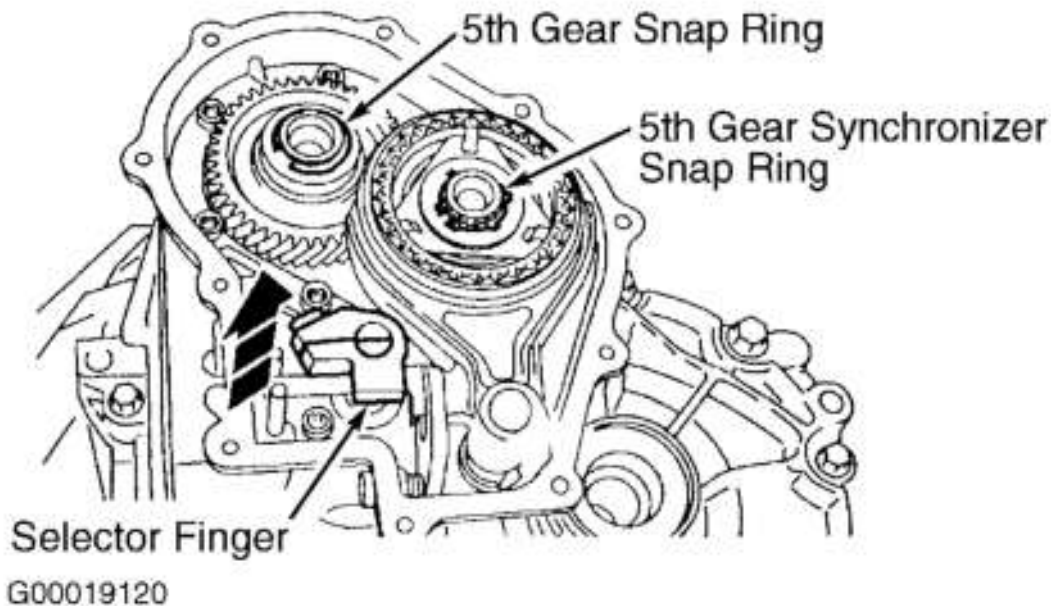

Fig. 8: Removing 5th Gear Snap Rings & Selector Finger
2. Remove rear cover from transaxle. Remove 5th gear selector interlock. Remove selector shaft interlock. Remove 5th gear retaining snap ring. Remove 5th gear synchronizer retaining snap ring. Loosen bolt and remove selector finger. See **Fig. 8** . Remove 5th gear synchronizer, fork and shaft as an assembly.